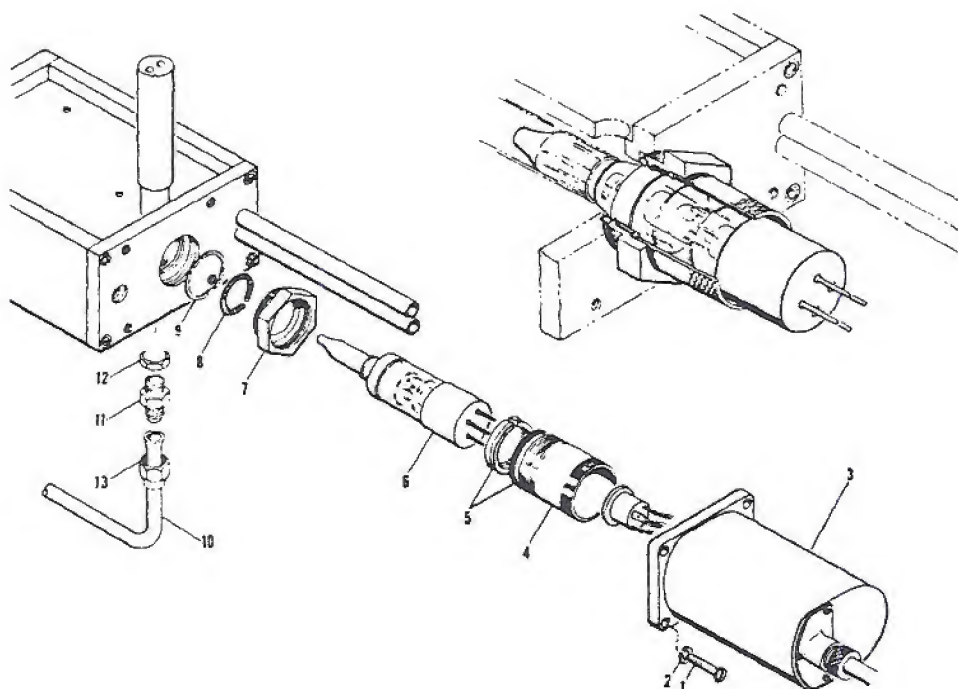

Figure 5-15. Exploded View of Klystron Mounting Parts (618C)
a. Remove the socket housing cap, screws and lock washers (items 1 and 2, Figure 5-15). Pull the housing (3) away until the tube socket is exposed.
c. Unscrew and remove sleeve (4) which covers klystron body. Do not at any time apply side motion to the klystron; to do so will break the tube.
d. Turn klystron (6) clockwise, and at the same time pull straight back from the cavity. Do not attempt to rock the klystron.
e. Remove rubber washer (14) and clamping ring (5).
f. Unscrew retaining nut (7) at cavity entrance using socket wrench supplied with the instrument. Remove the seating ring (9) and the spring (8) below retaining nut. Do not use this spring or washer again except as a necessity. New springs and washers are supplied with replacement klystrons ordered from Hewlett-Packard Co.
a. Install new waffle seating ring (9, Figure 5-15) and then new spring (8) in cavity entrance. Ends of spring should meet to form a complete circle.
b. Thread the retaining nut (7) into cavity until it is seated very lightly against the spring. Press spring into place under the nut so that it forms a circle. Tighten the nut slightly to hold the spring in position.